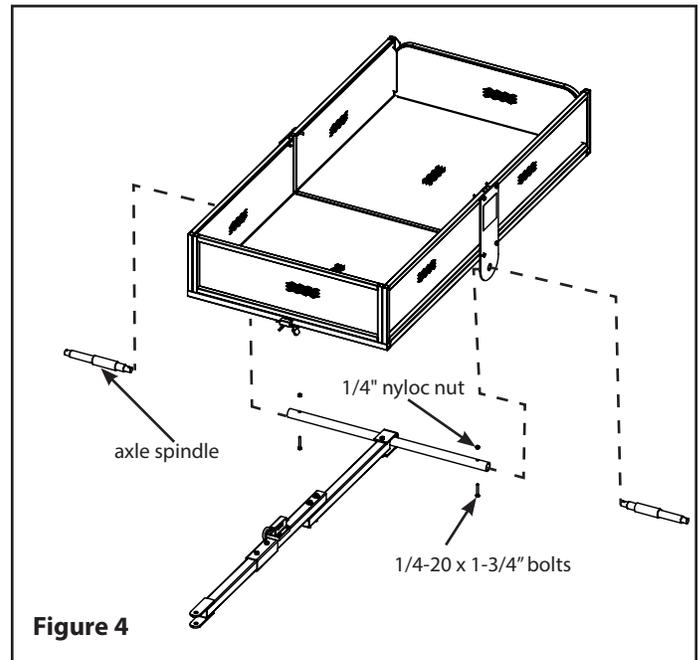

Figure 4
6. Attach the complete tongue/axle assembly to the frame by inserting the short end of the axle spindles (TK48) through the splice plates (300705) into the threaded axle tube (TK80). Thread spindle until tight, then back off until holes align to insert (2) 1/4-20 x 1-3/4" bolts from the bottom to hold axles in place. Secure the bolts with (2) 1/4" nyloc nuts. **SEE FIGURE 4**